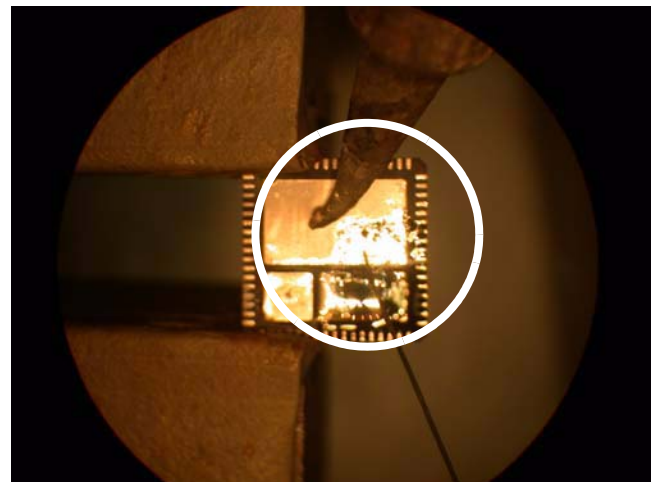
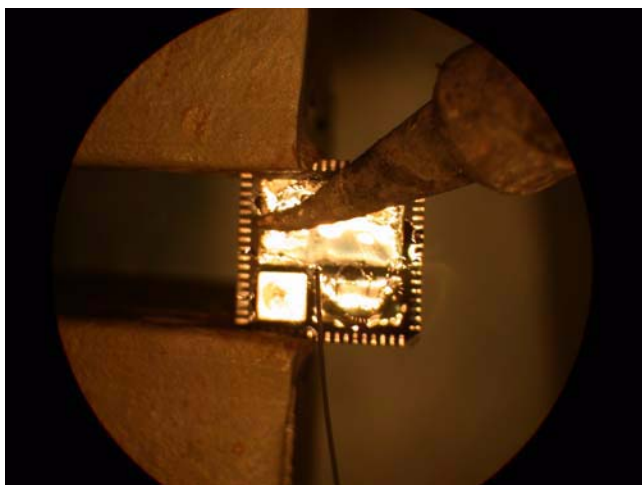

FIGURE 14. TINNING OF THERMAL LAND ON QFN (25% COMPLETE)
FIGURE 15. TINNING OF THERMAL LAND ON QFN (90% COMPLETE)
2. Tin the large center thermal land on the bottom of the replacement component using a hot iron with a tip temp of approximately +370 °C. This is done by first tinning the iron tip with solder. Then liberally apply liquid flux to the component center thermal land and “dab” the tinned iron tip onto the large thermal land of the component in a “tapping” type motion (see Figure 14 and Figure 15).